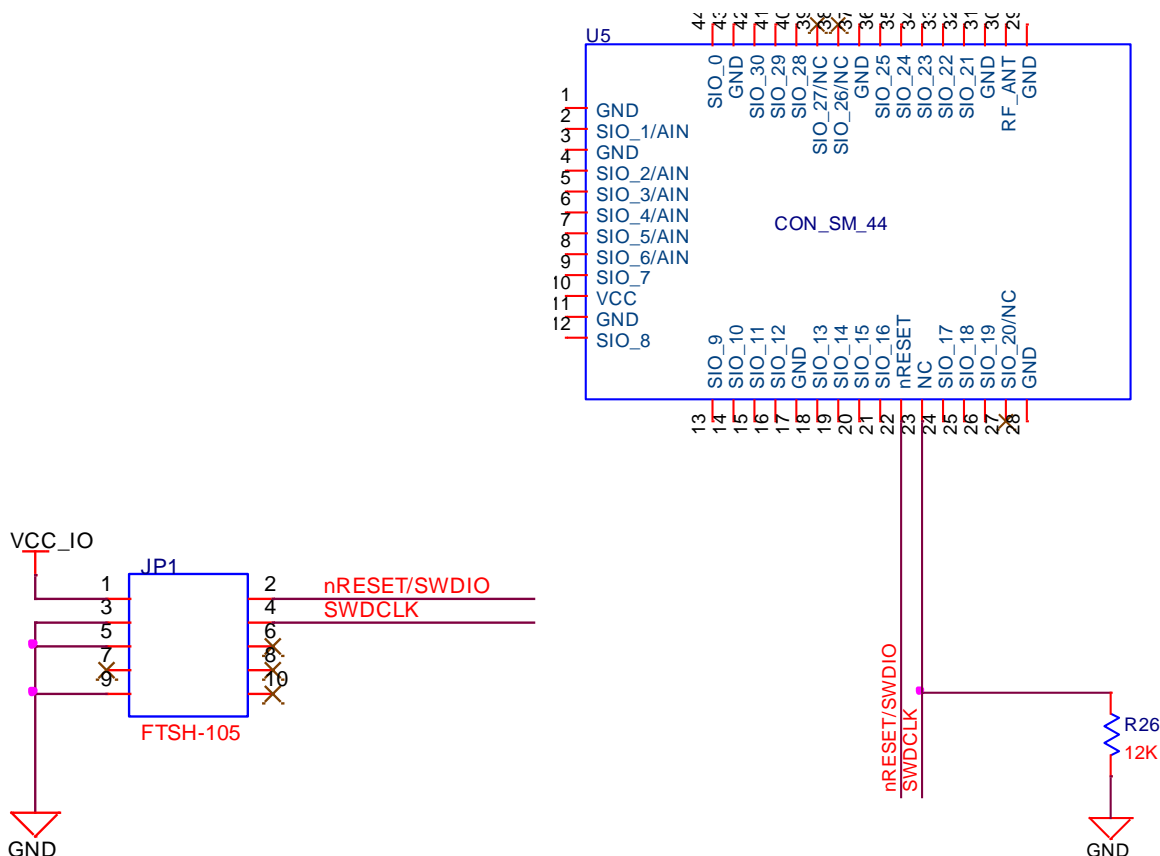

Figure 9: Wiring for JTAG connector to hidden JTAG on BL600 module
**Note 1:** Reference on BL600 development board schematic. Figure 9 shows the BL600-Sx-02 and BL600-Sx-03 development schematic wiring only for the JTAG connector and BL600 module hidden JTAG pins.